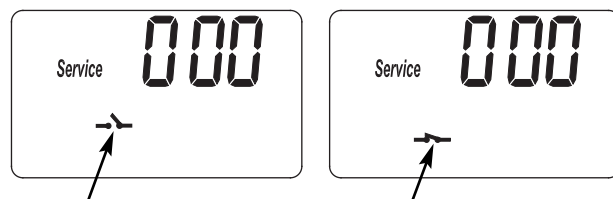

FIG. 49
3. Symbols in the display indicate POSITION switch operation (See Figure 49).